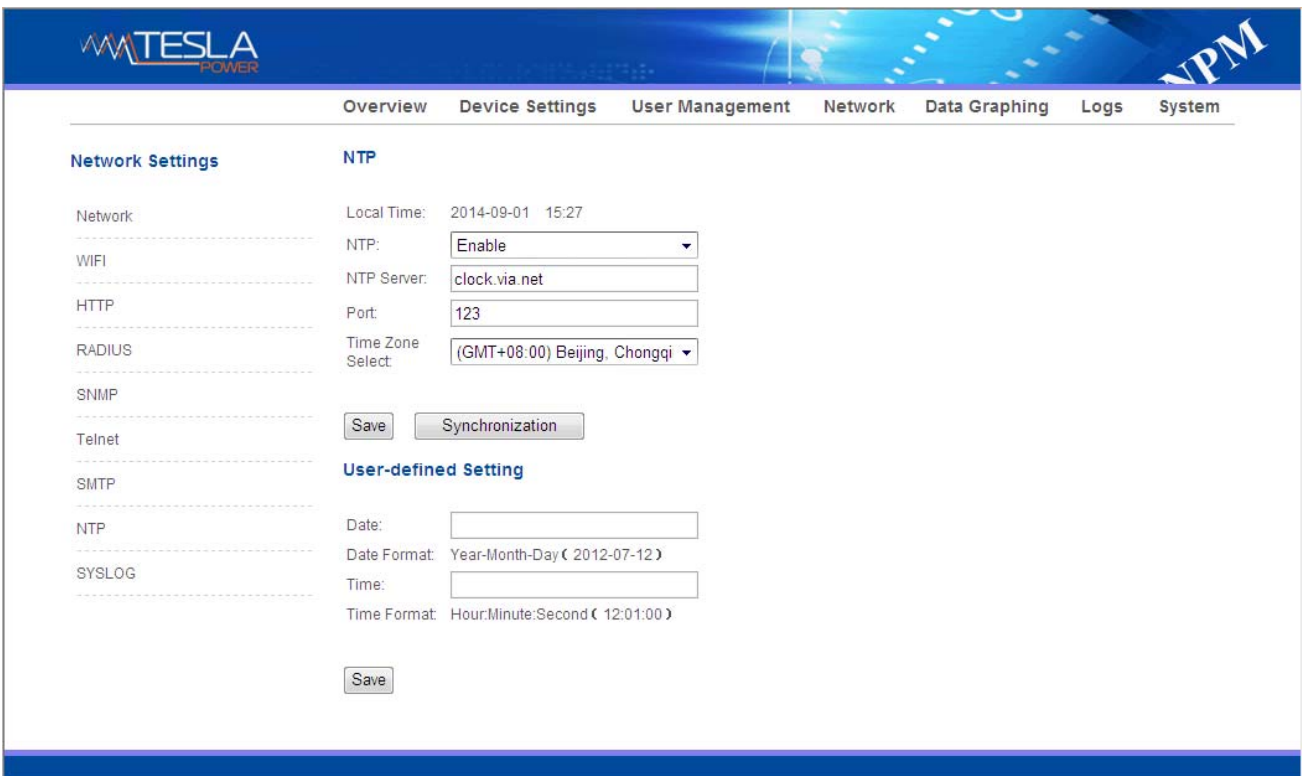

Figure 1-12
H. NTP Settings: Click NTP as shown figure 1-12 from network setting tap